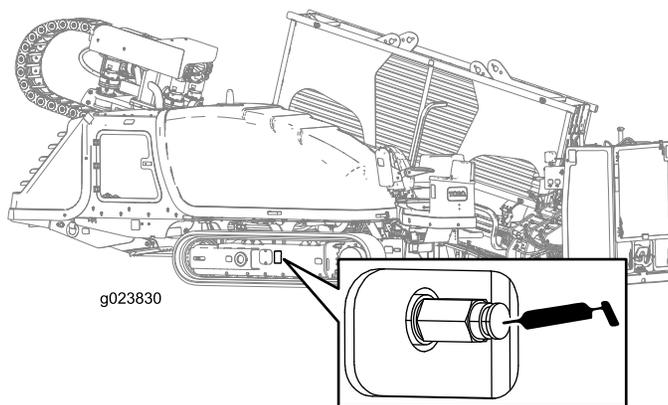

Figure 106
2. Remove dirt and debris found around the track-tension grease valve (Figure 106).
4. Apply grease to the fitting until the tension reaches 31,026 kPa (4,500 psi) as shown in Figure 106.
4. Turn the track-tension grease valve counterclockwise no more than 1 revolution (Figure 106).